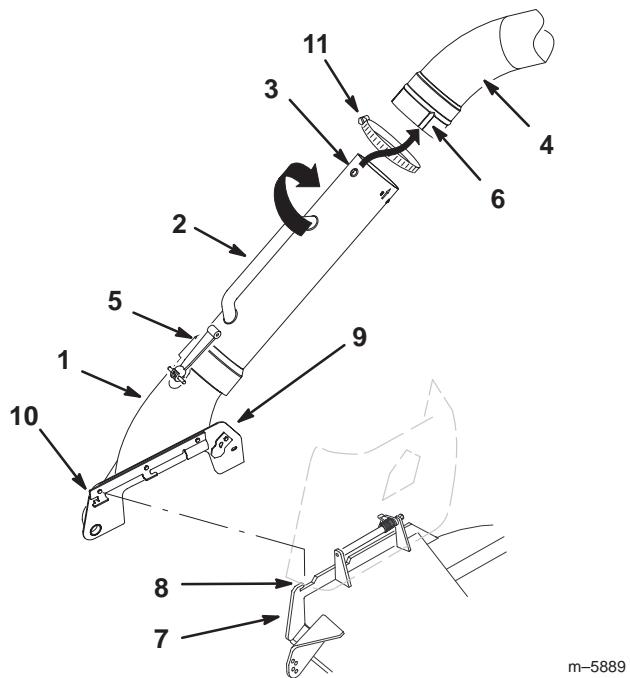

Figure 25
5. Position the boot's front hook into the front slot on the mounting bracket (Fig. 25).
6. Place the rear hook over the rear of the mounting bracket (Fig. 25).
7. Install the upper tube into the bagger (Fig. 25).
8. Slide the clamp onto the middle tube (Fig. 25).
9. Align the knob on the middle tube with the notch in the upper tube. Slide the middle tube into the upper tube and twist the middle tube 60 degrees (Fig. 25).
10. Tighten the clamp around the upper and middle tube connection (Fig. 25).
11. Slide the middle tube onto the boot and latch them together (Fig. 25).
3. Unlatch the middle tube from the boot and slide apart (Fig. 25).
4. Remove the tube assembly from the bagger (Fig. 25).
5. Remove the boot from the mounting bracket (Fig. 25).